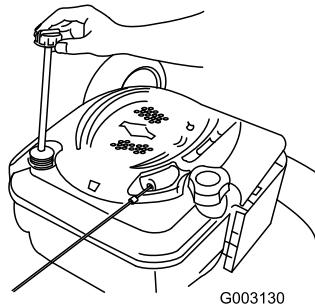

Figure 47
- Retirez la jauge (Figure 47).